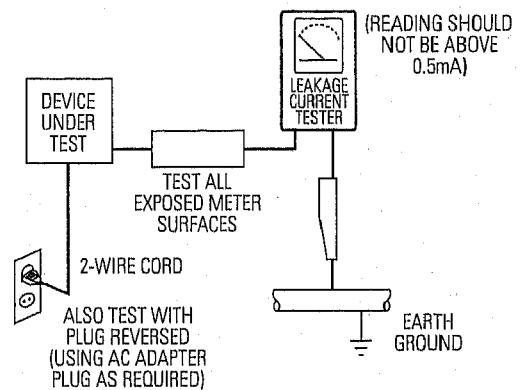

Fig. 1-1 AC Leakage Test
- (2) Be sure that there are no cabinet openings through which adults or children might be able to insert their fingers and contact a hazardous voltage. Such openings include, but are not limited to, excessively wide cabinet ventilation slots, and an improperly fitted and/or incorrectly secured cabinet back cover.
- (3) Leakage Current Hot Check-With the instrument completely reassembled, plug the AC line cord directly into a 110-240V AC outlet. (Do not use a isolation transformer during this test.) Use a leakage current tester or a metering system that complies with American National Standards Institute (ANSI) C101.1 Leakage Current for Appliances and Underwriters Laboratories (UL) 1270 (40.7). With the instrument's AC switch first in the ON position and then in the OFF position, measure from a known earth ground (metal water pipe, conduit, etc.) to all exposed metal parts of the instrument (antennas, handle brackets, metal cabinets, screwheads, metallic overlays, control shafts, etc.), especially any exposed metal parts that offer an electrical return path to the chassis. Any current measured must not exceed 0.5mA. Reverse the instrument power cord plug in the outlet and repeat the test. See Fig. 1-1.